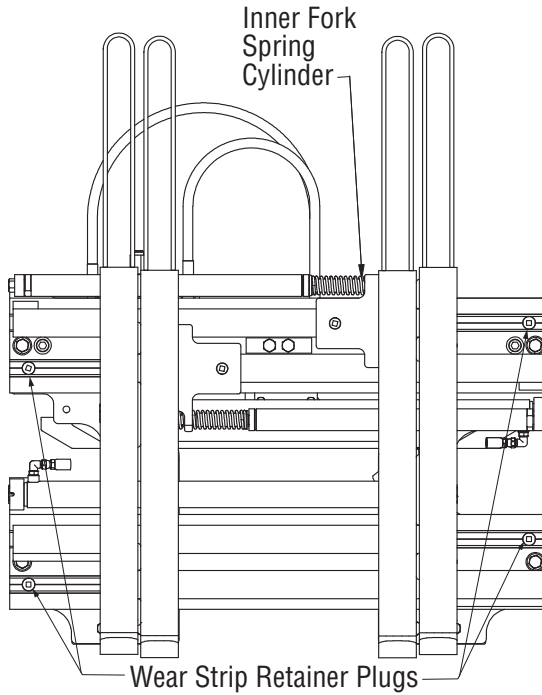

Figure 6-11, Forks closed
1. Position the forks to the closed position. Turn off the truck's power. (Figure 6-11)
1. Position the forks to a closed position. Completely lower forks. Turn off the truck's power. (Figure 6-11)